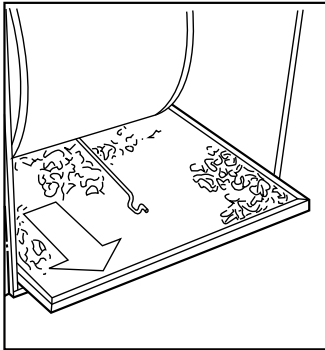

Fig. 24 - Slide Air Filter Out of Furnace
- (2.) Slide air filter out of furnace. (See Fig. 24.)